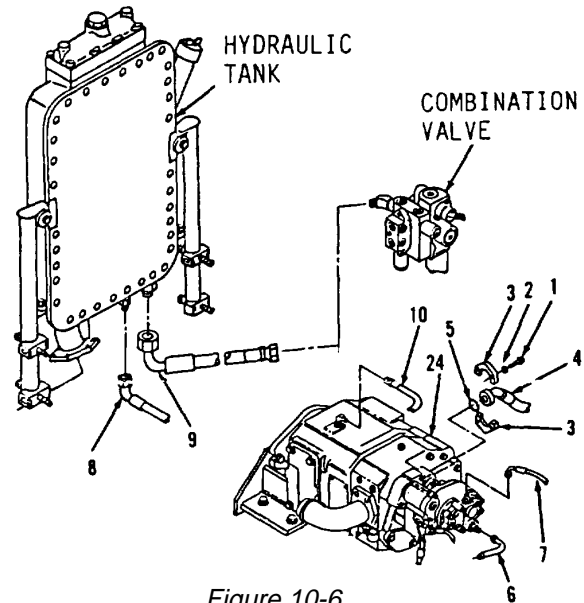

Figure 10-6.
16. Connect hose assembly (10) onto top of pump assembly (24, Figure 10-6).
17. Install hose assembly (9) to combination valve.
19. Connect hose assemblies (7 and 6) to front of pump assembly (24).
20. Install new preformed packing (5), hose assembly (4), two flange halves (3), four washers (2) and bolts (1) on left side of pump assembly (24).